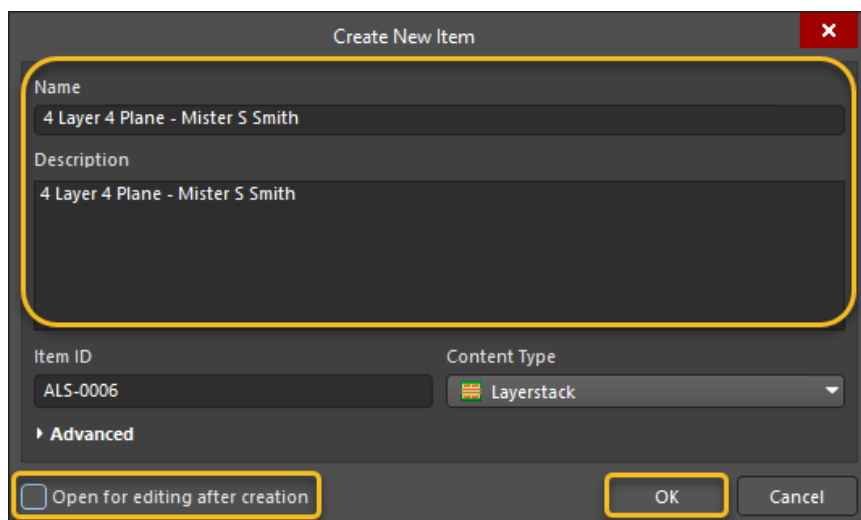

Figure 16. Create New Item dialog
- b) Use Figure 16 as a reference for the next steps. In the *Create New Item* dialog that opens, disable the **Open for editing after creation** option to avoid entering direct editing mode.